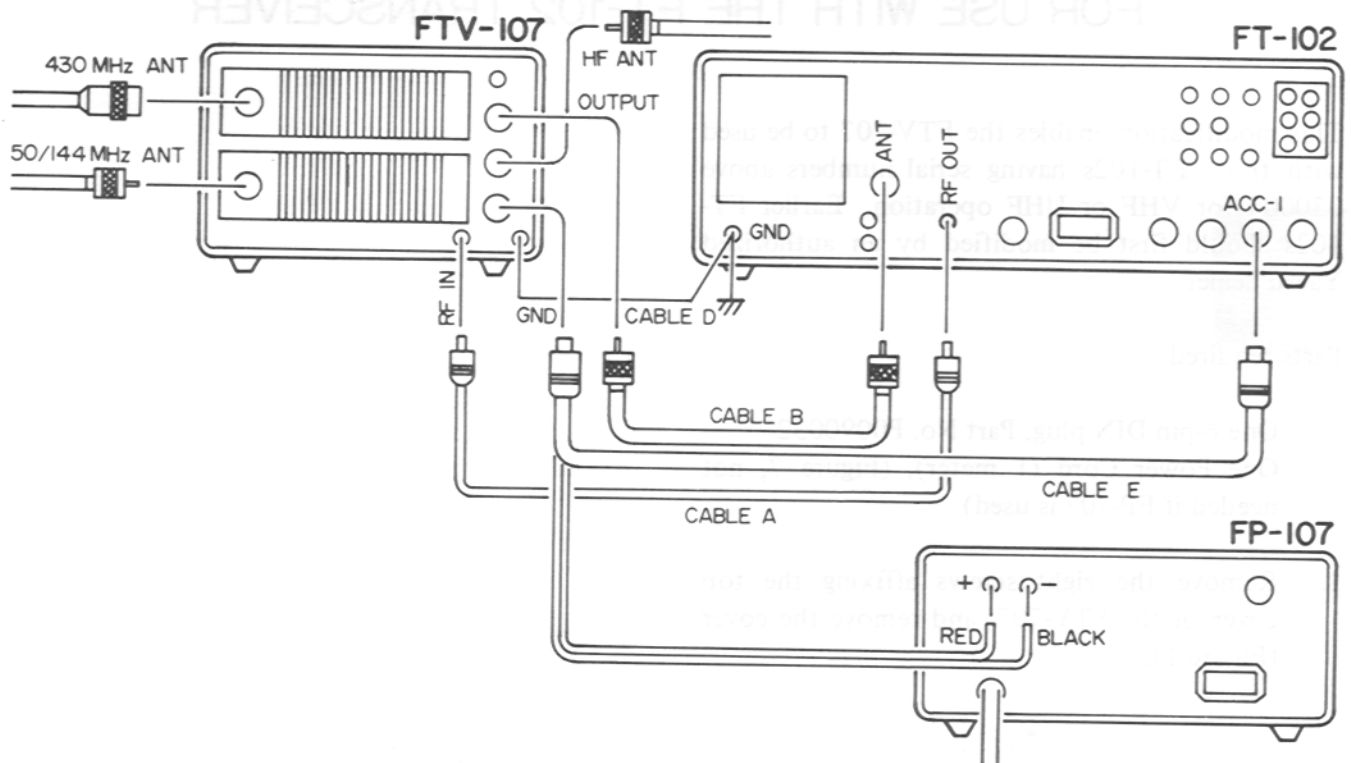

Figure 3
3. Replace the top and bottom covers and their screws, and connect the FT-102 to the FTV-107 as shown in Figure 3. This completes the modification.